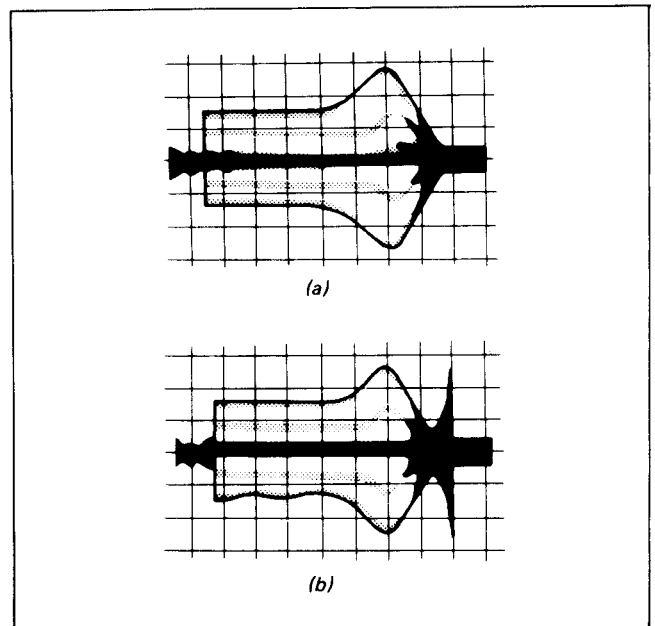
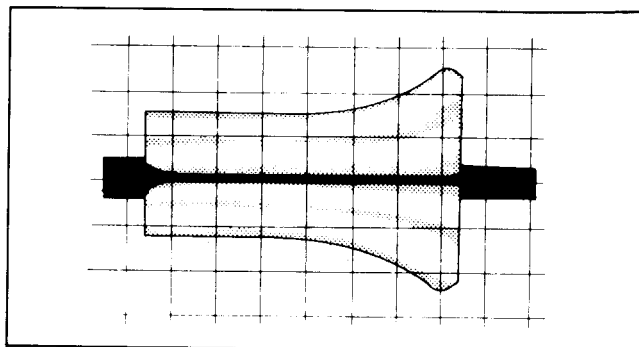
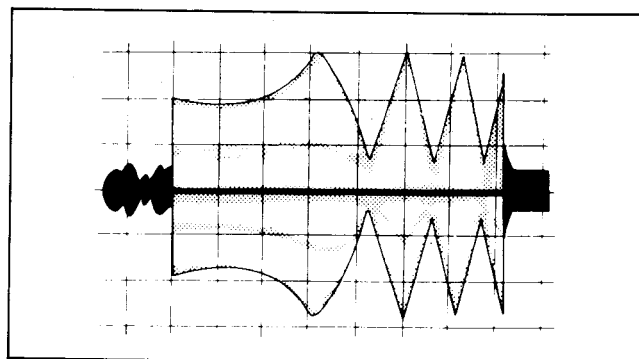

Fig. 4-7.
Fig. 4-9.
Fig. 4-10.
- i) If the exit free waveform is within the range illustrated in Fig. 4-7(a), (b), proceed with exit side adjustment.
- i) If the waveform is within the range illustrated in Fig. 4-7(a), (b), proceed with the adjustment.
- ii) If the exit free waveform appears as shown in Fig. 4-9, turn the ACE lateral adjustment screw clockwise until the waveform is within the range illustrated in Fig. 4-7(a), (b).
- iii) If the exit free waveform appears as shown in Fig. 4-10, turn the ACE lateral adjustment screw counterclockwise to obtain the waveform shown in Fig. 4-9, then turn clockwise again until the waveform is within the range shown in Fig. 4-7.
- 5) If the RF output waveform is as shown in Fig. 4-9, where the exit side is not flat, lower No. 7, No. 8 guides again to flatten it.